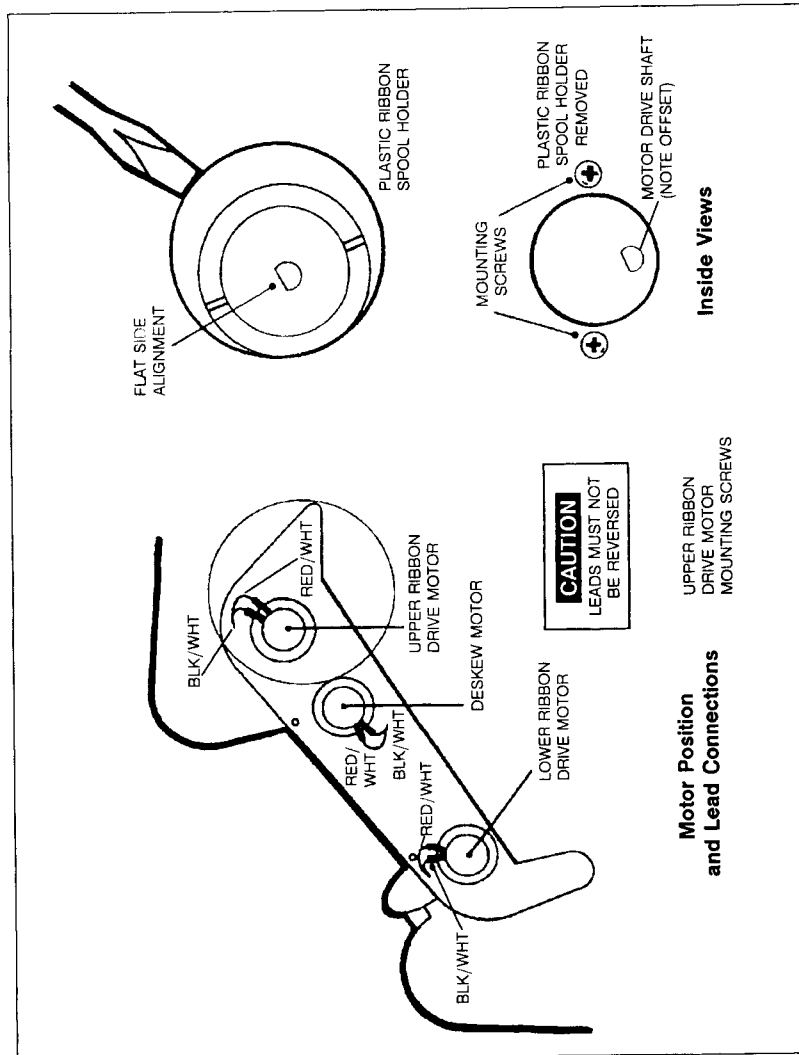

Figure 6-19. Lower Ribbon Drive Motor Removal
Before removing the wire leads to the motor, be sure to note their positions (see Figure 6-19). These leads must not be reversed, as this would cause the motor to run backwards.
- h. Using a flat bladed screwdriver, carefully pry the plastic ribbon spool holder off the motor shaft (as shown in Figure 6-19).
Care must be taken to replace the motor in the same position that it was removed (see Figure 6-19). Damage to the ribbon drive mechanism can result from improperly installed motor.